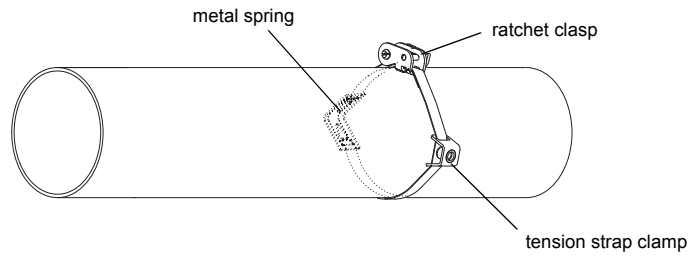

Fig. 9.41: Tension strap with the metal spring, the ratchet clasp and the tension strap clamp on the pipe
- Place the tension strap around the pipe (see Fig. 9.41).